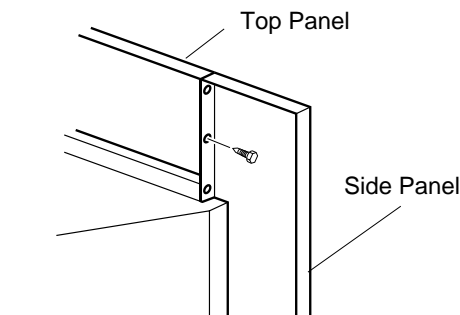

Figure 9 - Attaching Side Panels to Top Panel (GS43 Pictured)
- For model GS43, align six screw holes in side panels with holes in top panel (see Figure 9). For model GS38, align two screw holes in side panels with holes in top panel (see Figure 9). Insert and tighten screws.